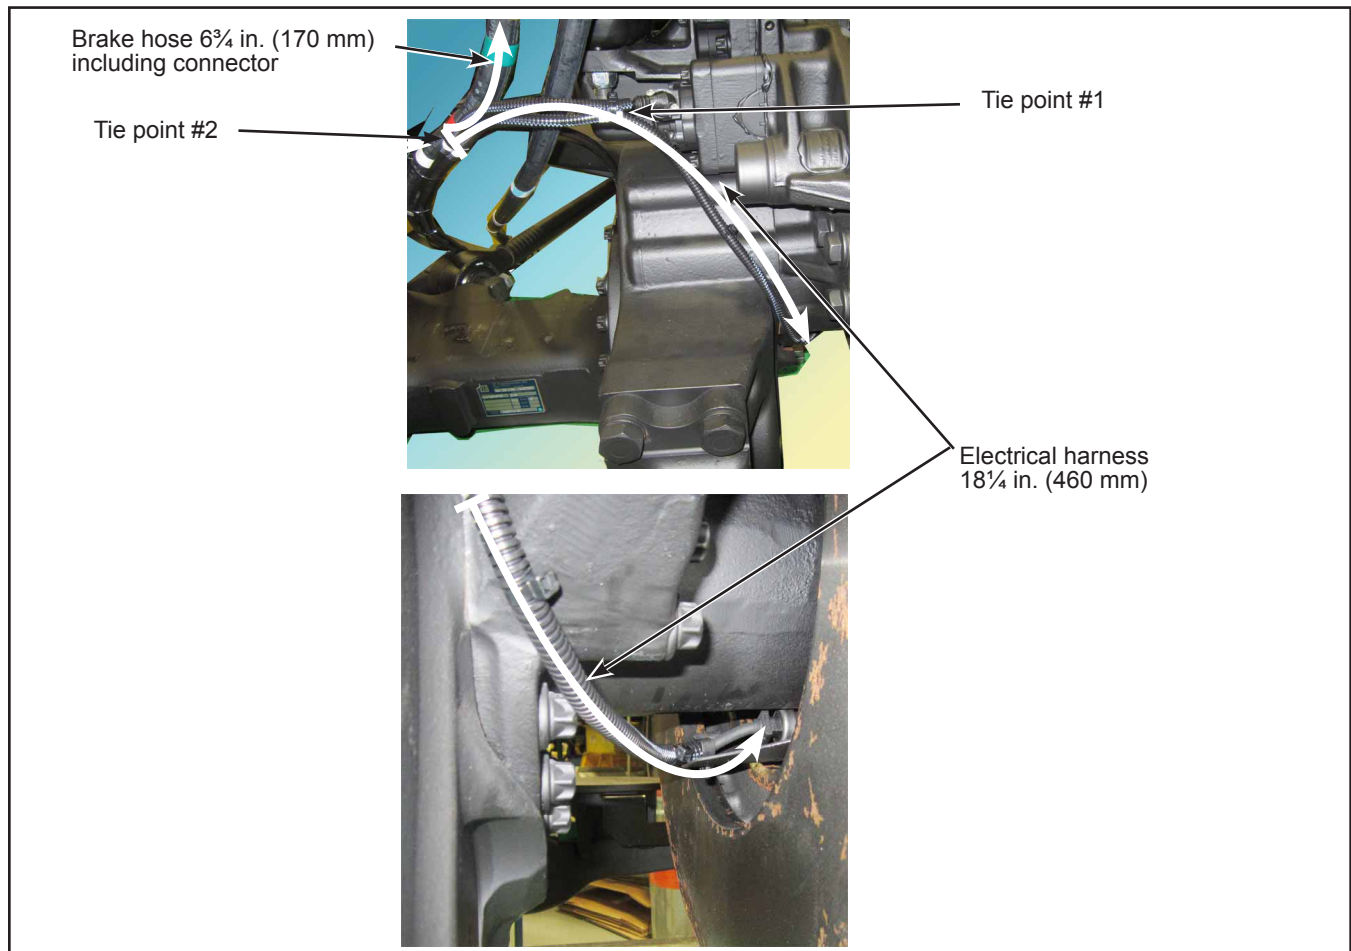

Figure 21 - Curb Side Electrical Harness Routing
- 2.31. Mark the electrical harness at the position indicated in Figure 21.
- 2.32. Mark the brake hose at the position indicated in Figure 21.
- 2.33. Affix the electrical harness to the other electrical harness at the tie point #1 with a tie wrap. See Figure 21.